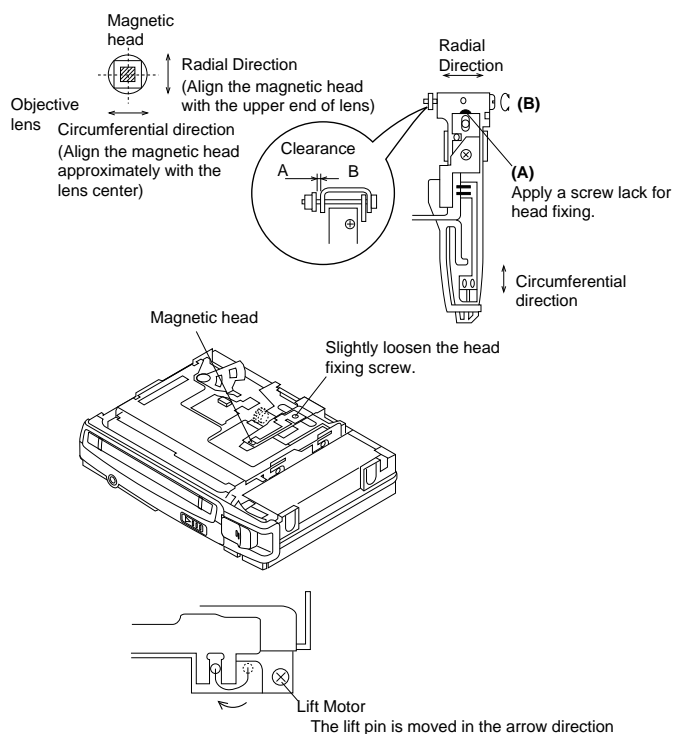

Figure 16-2
• Circumferential direction: Slightly loosen the head fixing screw (A), and shift the magnetic head fitting to align the head with the pickup objective lens.
• Radial direction: Turn the magnetic head circumferential adjustment nut (B), and adjust to align the head with the objective lens.
*1: Before setting the disc remove the decoration plate from the disc lid, and fix it as shown in Figure 16-2.
4. Make sure that there is a clearance as shown in Figure 16-2 and that the magnetic head moves up and down smoothly.
5. After adjustment apply Screw Lock to the head fixing screw (A) and adjusted magnetic head radial adjusting screw (B).